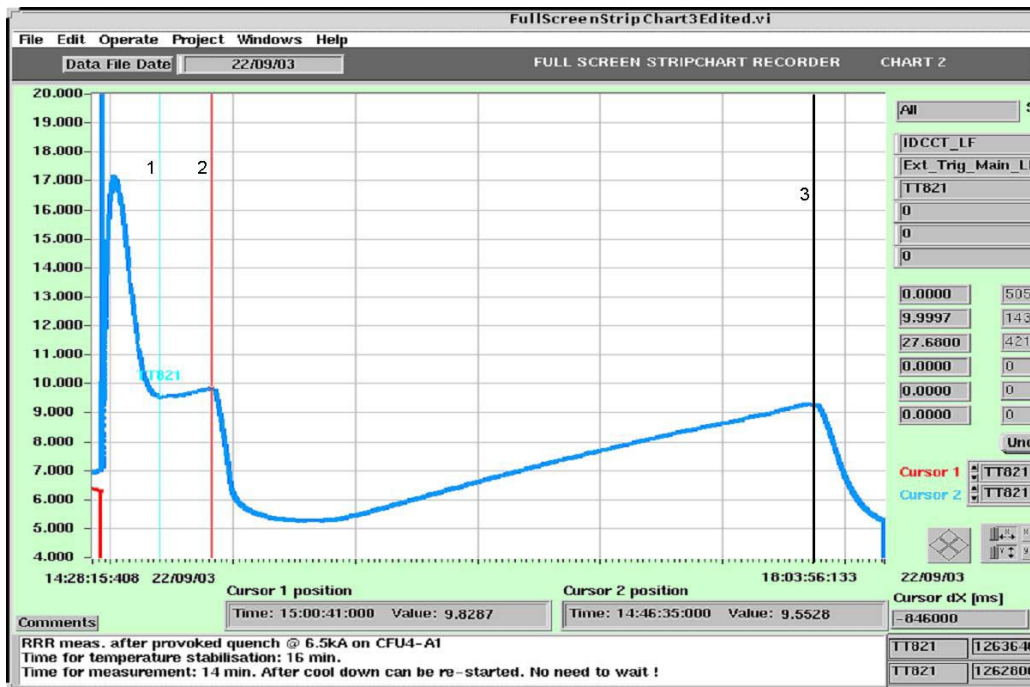

Figure 1 : The resistive transition has taken place some where between cursors 1 and 2 .No point in warming up the magnet again up to cursor 3 .
3.2.1 Discussion on Figure 1 : This is one of the best case scenarios where the temperature of the magnet goes below transition temperature (cursor 1) and you are able to start recording of voltages from cursor 1 onwards .At cursor 1 the resistive voltages have not yet appeared . The recording of the voltages continue up to cursor 2 , during which the resistive transition sets in. After reaching cursor 2 the magnet should be simply cooled down to 1.9 K or 4.4 K as desired and the recording can be stopped at cursor 2 . .There is no point in warming up the magnet again (like shown in the figure 1) up to cursor 3 since we have already completed the job at cursor 2.